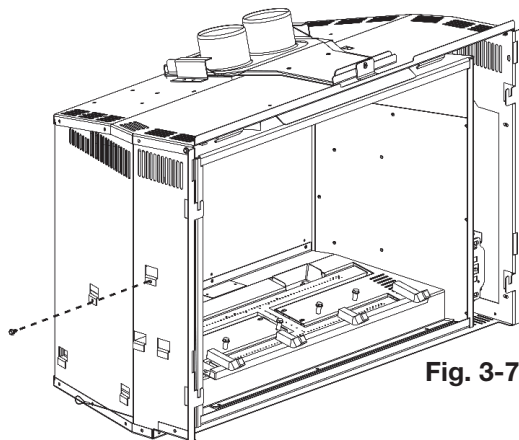

Fig. 3-7
2. Remove the 1 screw holding the bracket in place (**Fig. 3-7**). Lift the bracket up and out of the slots, lifting it through the opening between the firebox and the appliance's outer shell (**Fig. 3-8**).
5. Resecure the 1 screw to hold the bracket and receiver in place (**Fig. 3-7**).